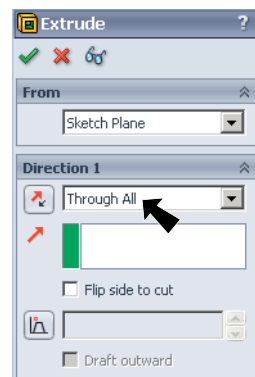

Fig. 14
Step 10. Set **End Condition** to **Through All** in the Property Manager and click OK  , **Fig. 14** and **Fig. 15**.